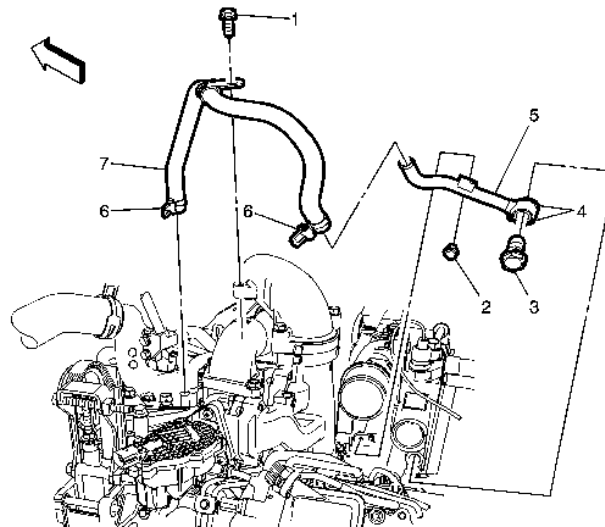

Fig. 7: Turbocharger coolant return pipe removal
10. Remove turbocharger coolant return banjo pipe from the turbocharger (Item #5 in Fig. 7 below) -